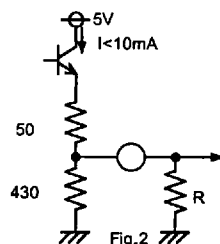

Fig.2
5. The terminal of R,G,B output pin (Pin 27, 30, 35). It is possible to add a pull-up resistor according as drive ability, but set the value of resistor in order that the current is under  $10\text{mA}$ . Setting the value of R is more than  $500$  as shown in Fig.2 .